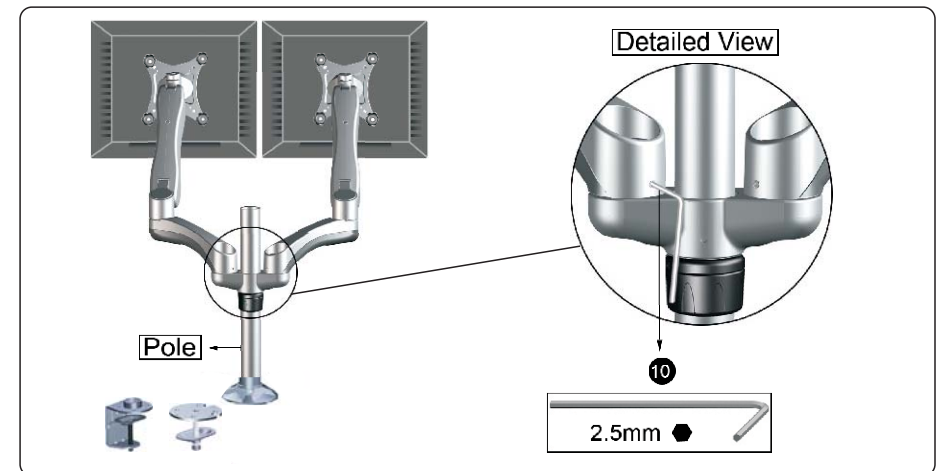

Figure 3-2
2. Once you have Articulated Arm Assembly is in desired position, tighten with Hex Grub Screw using Hex Allen Wrench 2.5mm (10) provided so the assembly is firmly in place. (See Figure 3-2)